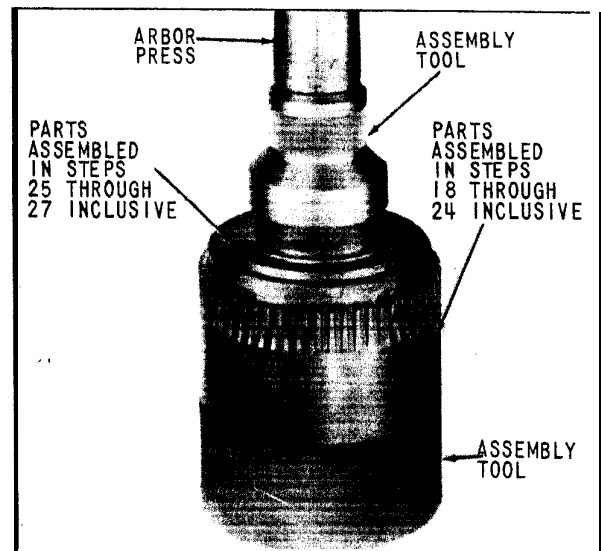

Fig. 42 Pressing Forward Clutch Cylinder into Ring Gear
28. Place the combined parts, as assembled in steps 18 through 24 inclusive, on a suitable support which has been placed on an arbor press, (Fig. 42). Center the clutch spring in the ring gear.
29. Place the parts assembled in steps 25 through 27 inclusive into the open top of the assembly described in step 28, (Fig. 42). Place a suitable assembly tool squarely on top of the forward clutch cylinder and press down with the arbor press until the forward clutch cylinder is firmly seated on the snap ring and the groove for the snap ring is fully exposed. Check, by looking into rear of ring gear, to be sure that the clutch spring bearing ring is properly assembled on the forward clutch piston.